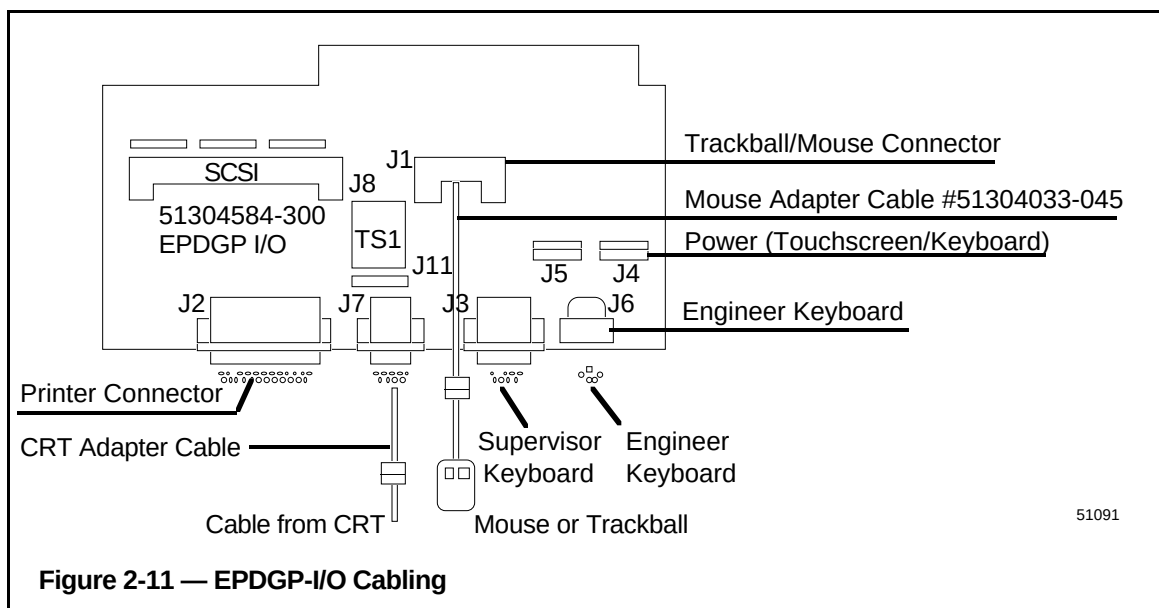

Figure 2-11 — EPDGP-I/O Cabling
Connect the keyboard cable to the connector on the face plate of the EPDGC I/O board (see Figure 2-11). Use a small screwdriver to tighten the screws (2) on the connector.
1. Connect the end of the cable marked **PIC** to the connector on the face plate of the EPDGC I/O board marked **PRINTER** in Figure 2-11. Use a small screwdriver to tighten the screws (2) on the connector.
2. Connect the other end of the printer cable (marked **PRINTER**) to the back of the printer. Using a small screwdriver, tighten the screws (2) on the connector.
Connect the cable from the color monitor to the EPDGC I/O face plate connector marked **VIDEO** in Figure 2-11, on the upper transition panel. Using a small screwdriver, tighten the screws (2) on the connector. Finally, attach the power cord to the monitor and plug it in.